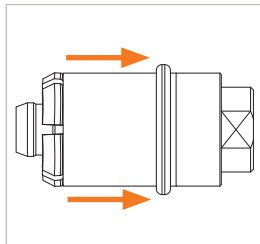

Figure 2
- ▶ Pull the grip sleeve (Pos. 1) of the connector backwards (Figure 2). The connector is opened.